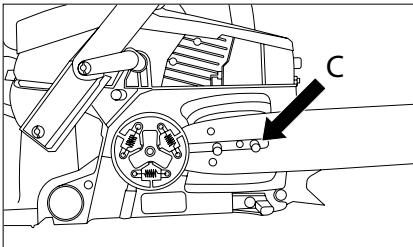

Fig. 6
4. Install the bar so that the bar slot aligns with both bolts (C) (fig. 6).